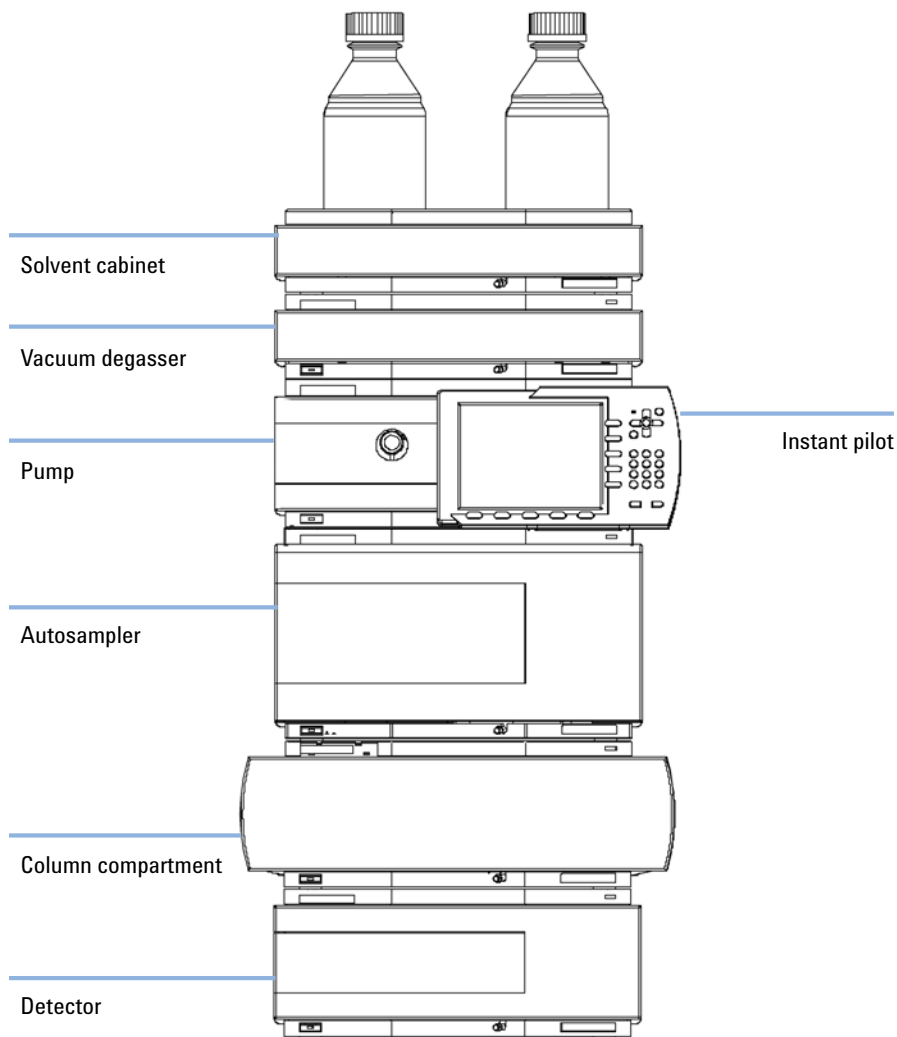

Figure 5 Recommended Stack Configuration (Front View)
- 1 Place the individual modules in a stack configuration as shown in Figure 5 on page 35.
- 1 Place the vacuum degasser in the stack of modules as shown in Figure 5 on page 35.